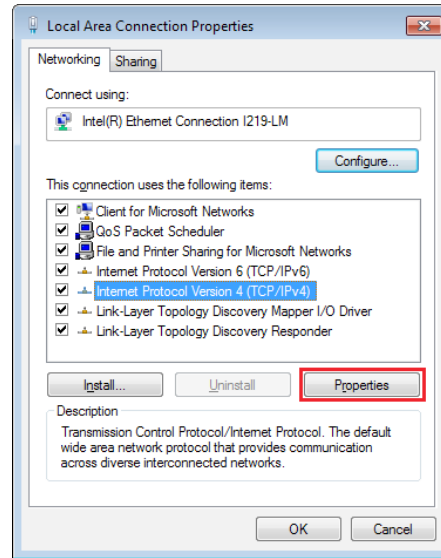

Figure 10: Local Area Connection Properties
4. In the *Local Area Connection Properties* window (**Figure 10**), select your **Internet Protocol Version # (TCP/IP#)**, and then click **Properties**.